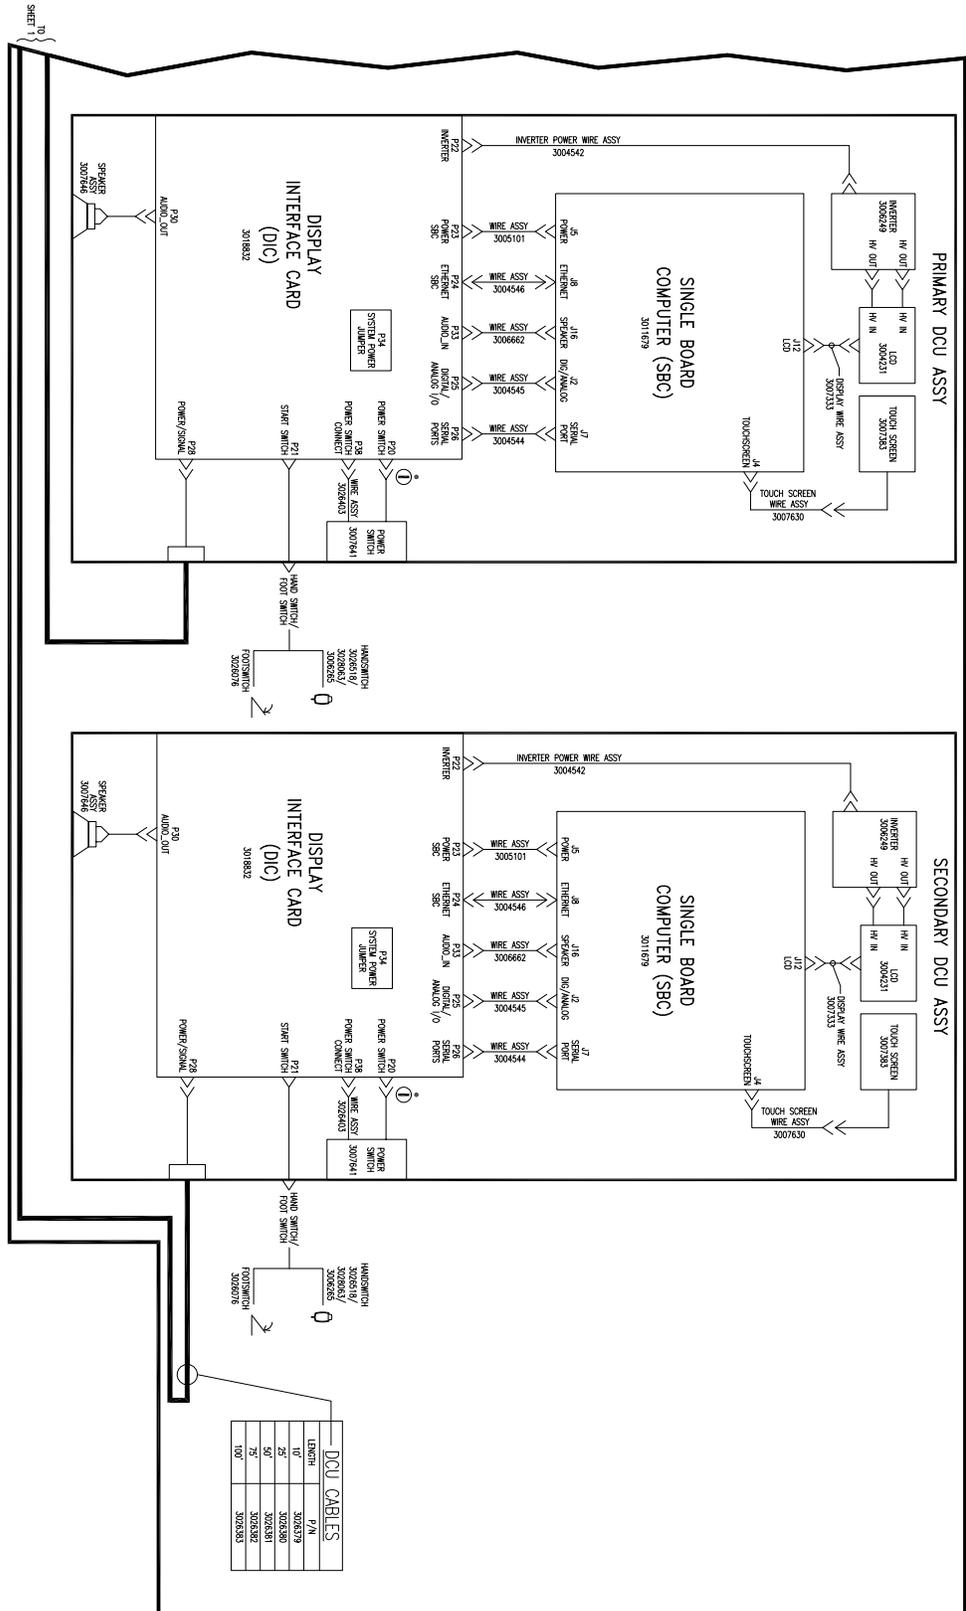

Figure 6 - 2: System Interconnect - DCUs
- Power Unit - Figure 6 - 1: System Interconnect - Power Unit
- DCUs - Figure 6 - 2: System Interconnect - DCUs
- Head Assembly - Figure 6 - 3: System Interconnect - Head Assembly